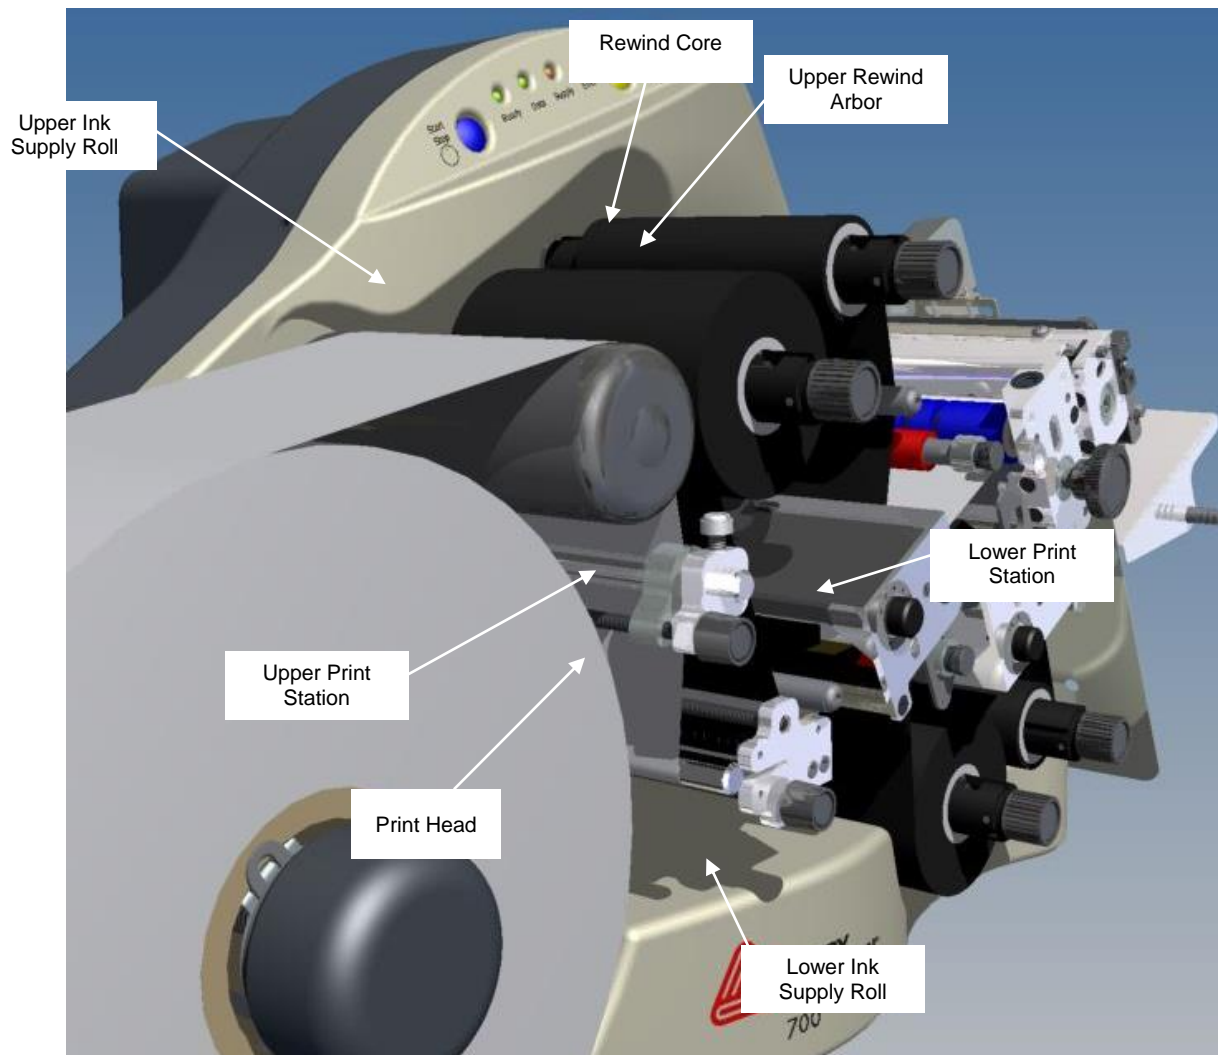

Figure 8. Upper and Lower Ink Supply and Print Stations - Loaded
3. Open the print roller (See Figure 8).